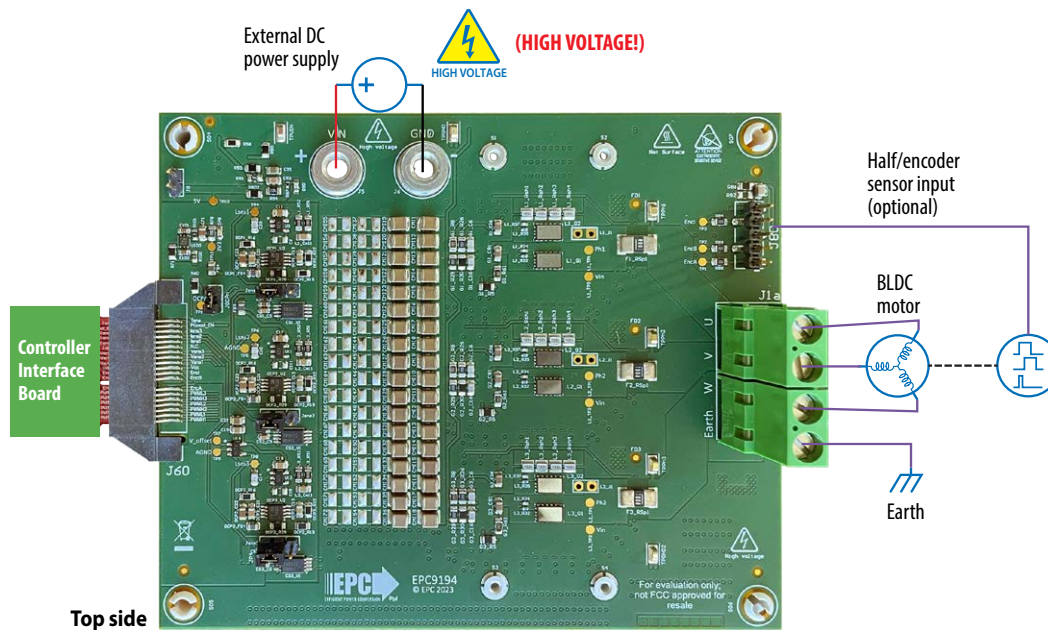

Figure 5: Connection diagram of the EPC9194 configured as a motor drive inverter
A 3-phase BLDC motor drive inverter is the primary application case for which the EPC9194 board was designed for and can be used for either sensor-less or shaft encoder sensor configurations. The motor drive controller options are given in table 4 giving the user various mainstream choices that leverage existing resources to simplify and speed up development and evaluation. Figure 5 shows the simplicity of connecting a controller and motor to the EPC9194. **In the default configuration, the EPC9194 is paired with the EPC9147C (not shown) that is pre-programmed to power and control a NEMA 34 size motor from Teknic M-3411P-LN-08D, with DC supply voltage of 48 V using sensor-less field orientated control with space vector pulse width modulation (SVPWM).**
2. Connect the correct motor, whose parameters are programmed into the controller, to the EPC9194 at connector J1 and the DC power supply at connectors J5 and J6 (**Observe correct polarity, there is no inverse polarity protection on board**) and shown in figure 5.